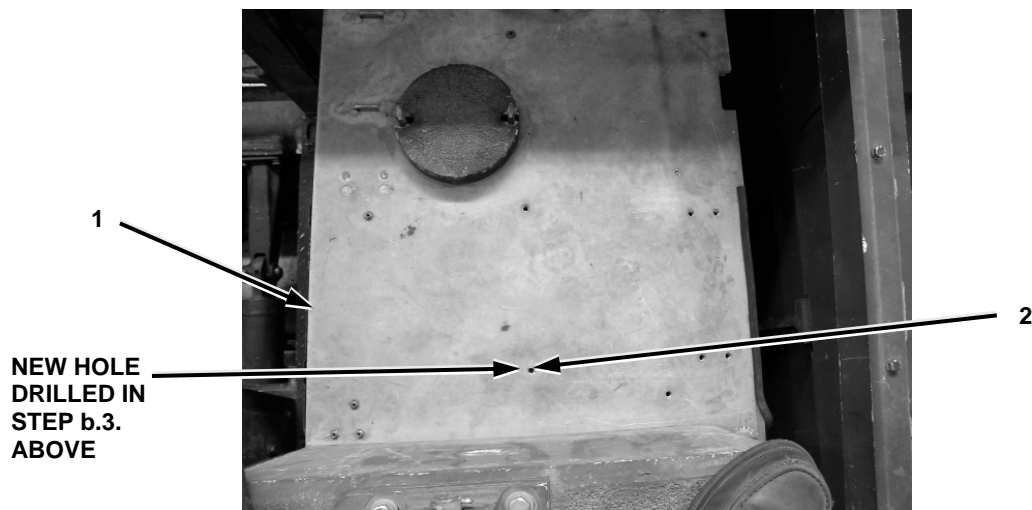

Figure 2-3. Drilling, Tapping and Installing Steel Insert in Fourth Mounting Hole.
Step 5 below applies to Figure 2-3.
5. Using a 1/2 inch diameter drill bit and a drill stop gauge set, drill a 1/2 inch (12.7 mm) hole, 1/2 inch (12.7 mm) deep into the fuel tank armor plate (1) at location (2) drilled in step b.3. above. Tap hole (2) using a bottom end tap set to 9/16-12 UNC-2-A. Install steel insert (MS51831-204) into threaded hole (2).